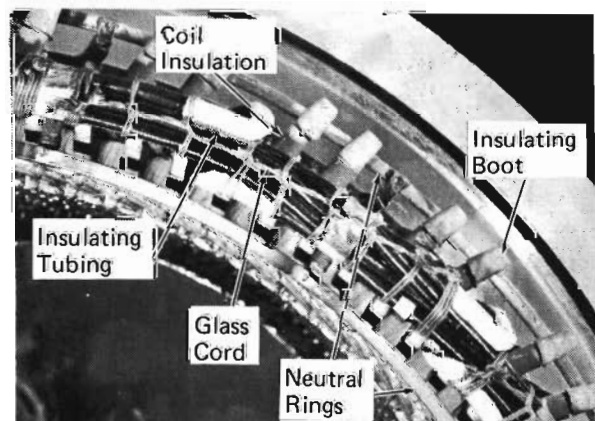

Fig. 5 - Wiring Insulation
18. Slip insulating boot over the brazed joint and over the ends of the sleeving on the coil leads. The boot must cover a minimum of 1/4" of the lead sleeving, Fig. 5.